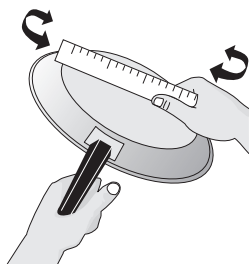
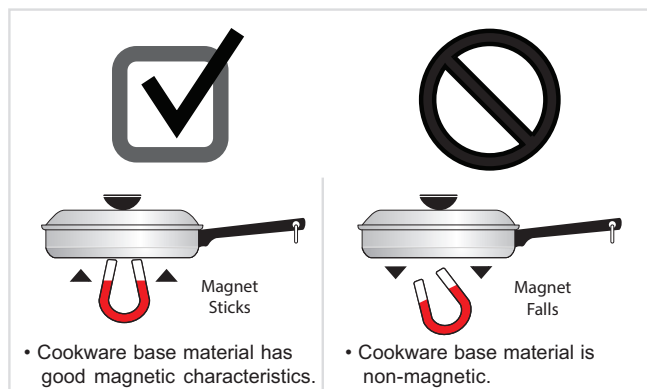
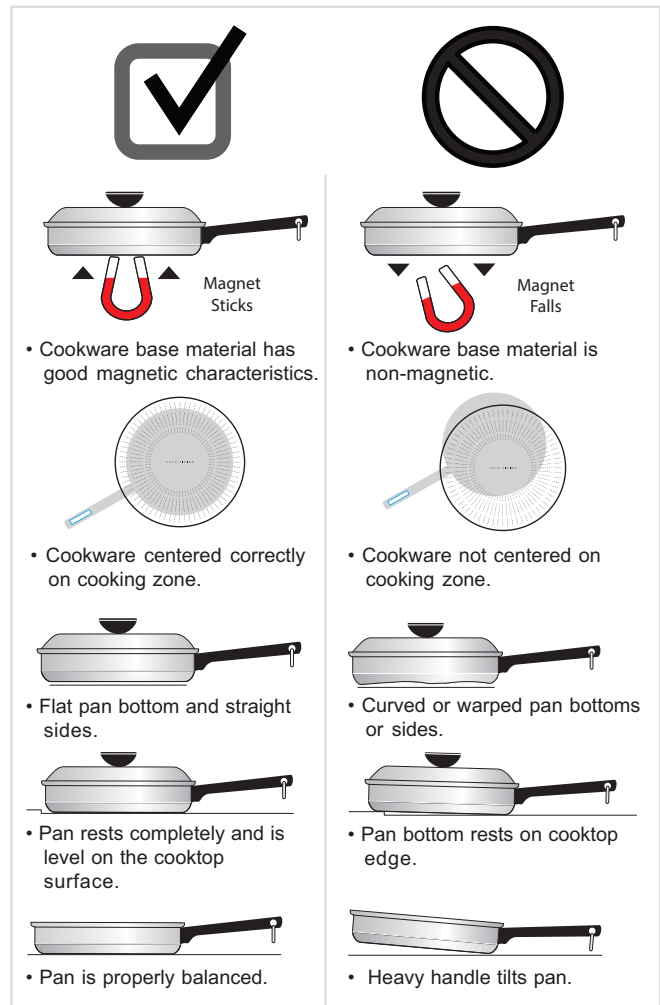

Figure 2: Ruler test
Figure 3: Magnet test
Figure 7: Pan sensing conditions
The size and type of cookware used will influence the heat setting needed for best cooking results. Be sure to follow the recommendations for using proper cookware as illustrated in Figure 2 and Figure 3.
Check for flatness by rotating a ruler across the bottom of the cookware (see Figure 2). Cookware should have flat bottoms that make good contact with the entire surface of the cooking zone (see Figure 7 on page 14).
- **Stainless Steel** - Slow heat conductor with uneven cooking results. Durable, easy to clean, and resists staining. Some types of stainless steel will not work on an induction cooktop. Use the magnet test (Figure 3) to check stainless steel cookware.
- **Porcelain-enamel on metal** - Heating characteristics will vary depending on base material. Porcelain-enamel on a compatible metal will work on an induction cooktop. Use the magnet test (Figure 3) to check porcelain-enamel cookware.
To see if a piece of cookware will work on your induction cooktop, try to stick a magnet to it (see Figure 3).
The conditions that generate a flashing message are illustrated in Figure 7. If the situation is not corrected, the cooking zone will automatically turn off after three minutes. It's a good idea to lower the power setting before correcting the pan sensing message.